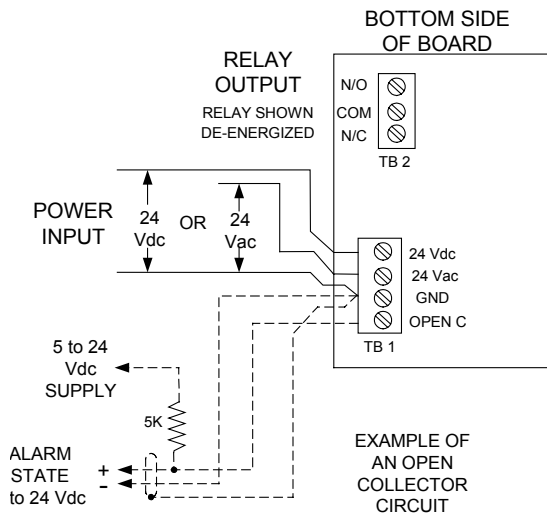

FIGURE 10 24 Vdc / Vac Input Power
4. Determine the type of power to be used (24Vac or 24Vdc) and attach the power leads to TB1 as indicated on the control circuit. See Figure 10. Make sure that an earth ground wire is attached to the earth ground terminal inside the housing.
5. Attach the relay load wires to TB2. The relay contact conditions are shown in the alarm state (de-energized). The relay’s maximum rating is 6 amps 28Vdc-100/240 Vac, resistive loads. The minimum current and voltage rating 20 mA, 10 volts. If the load is less than these values use the open collector terminal on TB1 See Figure 10.